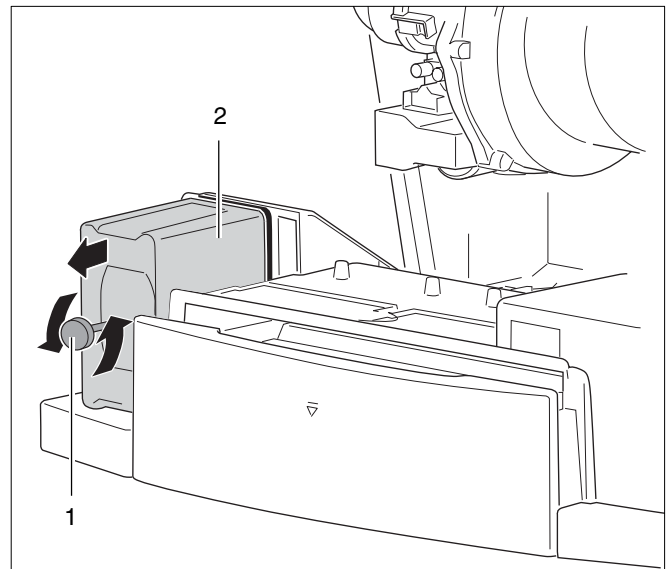

Fig. 57 Dismantling the UBA3
- Loosen the fastening screw of the UBA3 (see fig. 57, pos. 1).
- Remove the UBA3 by pulling it forward as indicated by the arrow (see fig. 57, pos. 2).